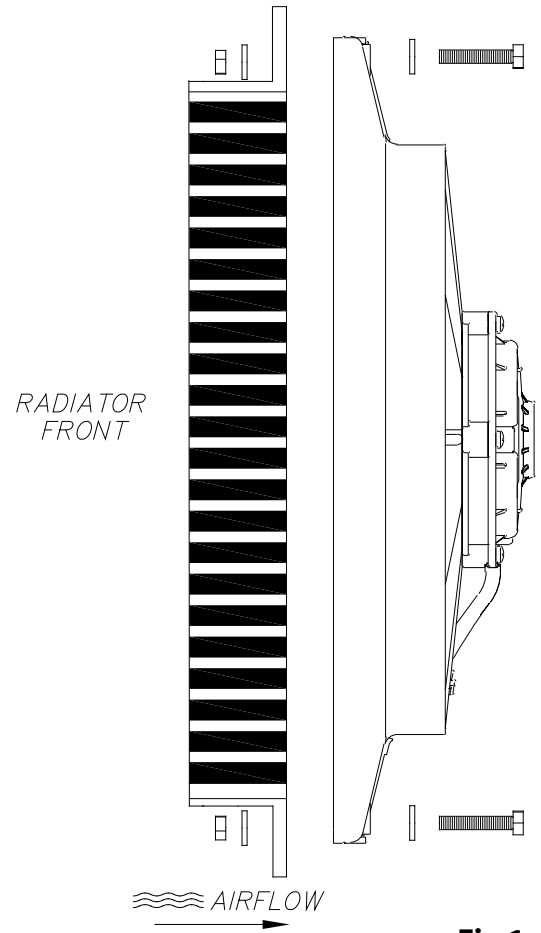

Fig 1
2. We do not recommend the use of nylon tie kits or any other "through core" mounting methods for this fan assembly. The 225 watt motors used in this dual fan assembly are too heavy and produce too much starting torque to be supported by the radiator fins. MARADYNE® recommends the use of 6 mounting points (3 top & 3 bottom) to affix the fan assembly to the radiator. MARADYNE® recommends drilling holes in U-channels of the radiator to mate with the .33" holes in the shroud whenever possible taking care not to damage the radiator core. If direct mounting to the radiator is not possible, bracket must be fabricated to attach to at least 4 of the .33" holes provided. A minimum 4 mounting points are required. MARADYNE® also recommends using nylon locking nuts and washers with the chosen metal bolts to prevent the nuts from backing out due to vibration. (See Fig. 1)